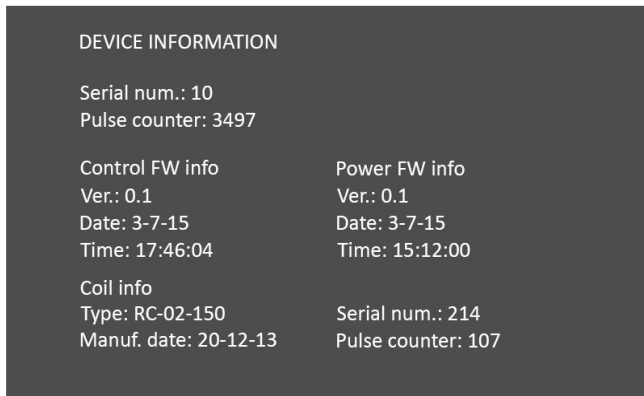

Fig. 9. “Device information” menu.
- Device info (Fig. 9) – when this item is selected, the device switches to “DEVICE INFORMATION” menu. It shows information on stimulator and coil if it is connected.